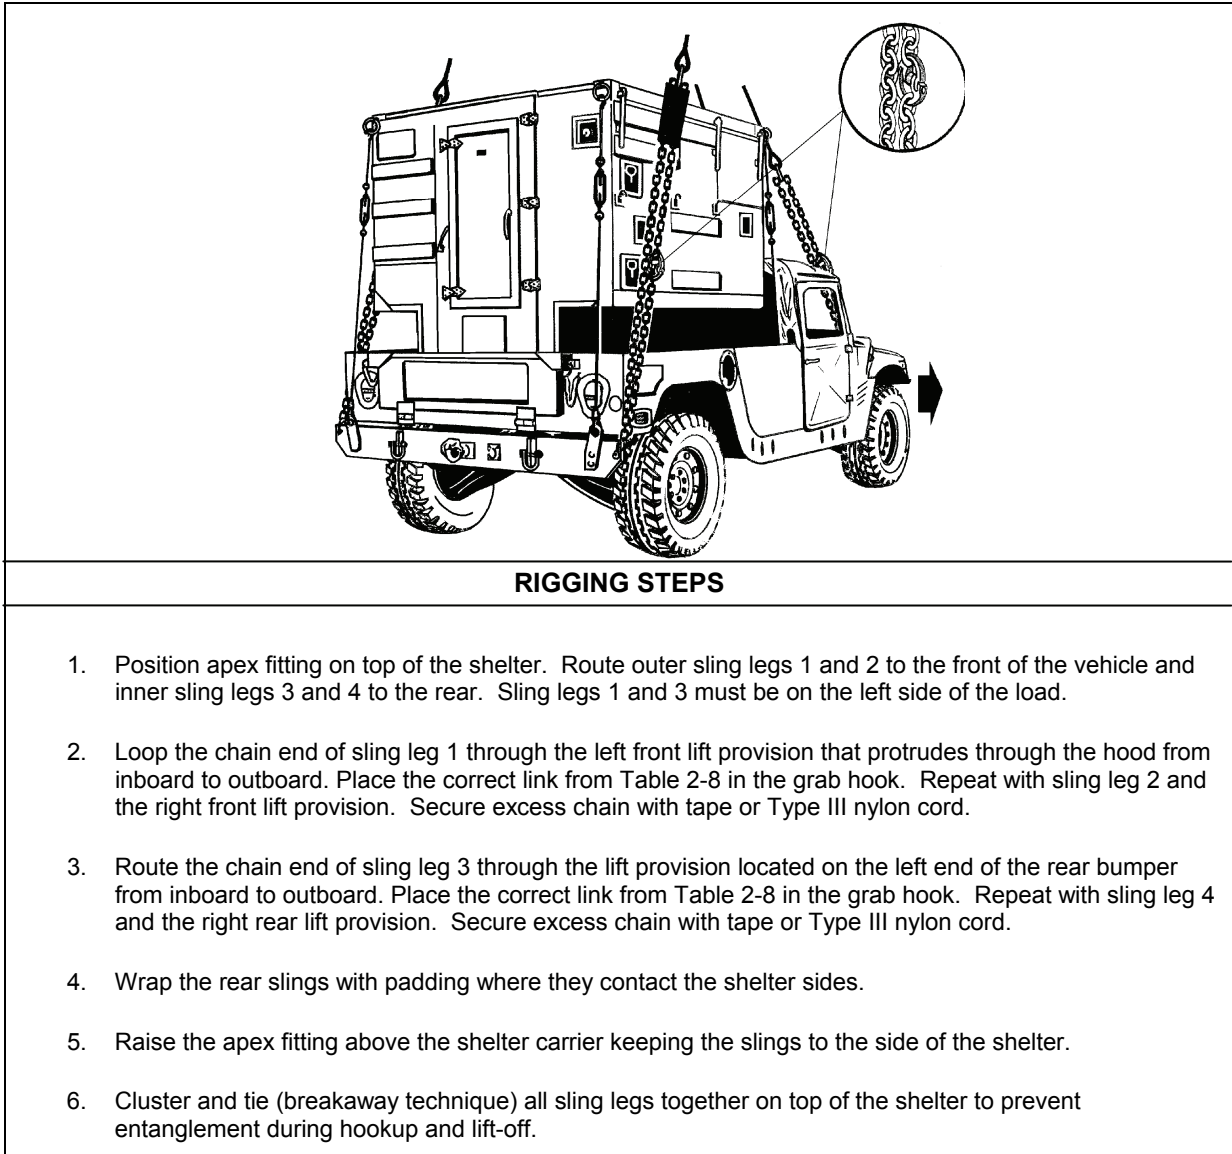

Figure 2-8. S-318 Shelter Mounted on the M1037
- **Rigging.** Rig the load according to the steps in Figure 2-8.